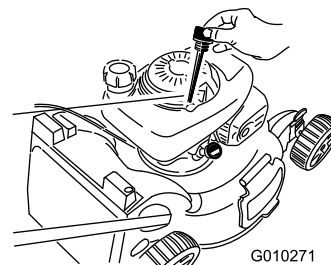

Figure 41
3. Retirez la jauge (Figure 41).